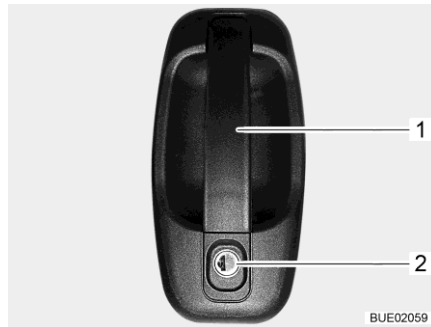

Fig. 55 Door lock (driver's door, outside)
- Insert the key into locking cylinder (Fig. 55,2) and turn until the door lock is unlatched.
- Pull on the door handle (Fig. 55,1). The door is open.
- Insert the key into locking cylinder (Fig. 55,2) and turn until the door lock is engaged.